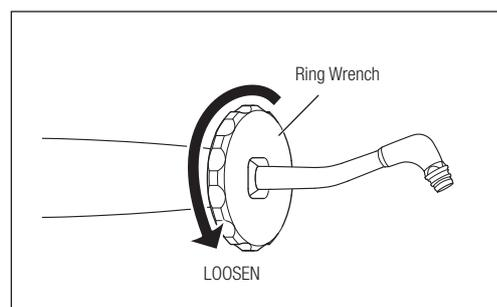

Fig. 40
- 1) Pass through the supplied Ring Wrench from the Nozzle end, loosen the Nozzle, and remove the Nozzle from the Handpiece (Fig. 40).